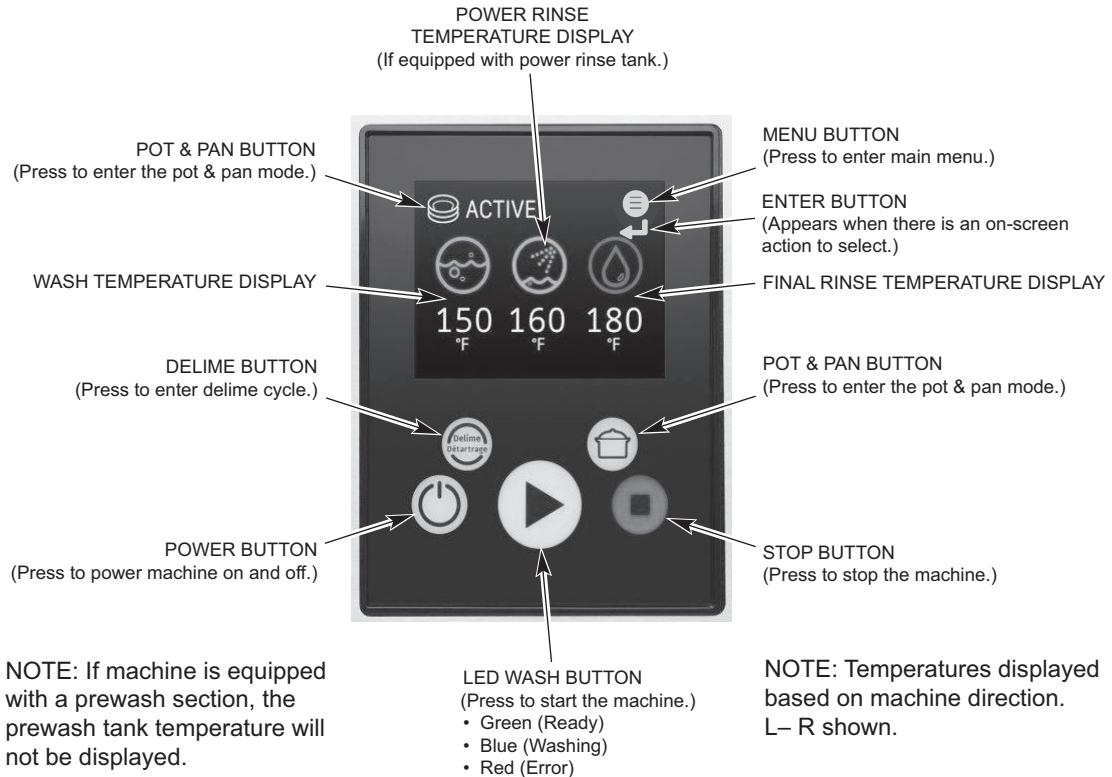

Fig. 24
The controls are mounted on top of the dishwasher. The HMI is mounted on the front of the control box (Fig. 24).
Close all doors. When the doors are closed, this will automatically close the drain. To begin filling after the machine is ready, press the POWER button (Fig. 24).
- Press the POWER button (Fig. 24). Dishwasher will fill automatically (refer to Filling the Dishwasher, page 22). After the tank has filled, the burner will ignite if heat is required. The ignition system includes a 15-second pre-purge period before ignition occurs.
After the machine has filled, start the pumps by pressing the WASH button on the HMI (Fig. 24) or by inserting a rack into the machine.
Tank temperatures are shown on the display (Fig. 24) when the machine is in operation. The final rinse temperature displays --- until a rack is in the rinse zone; then, the final rinse water temperature displays. After the ware exits the rinse zone, the final rinse temperature display returns to --- .
The pot and pan feature, standard on all CL models, allows the operator to wash heavily soiled pots and pans by indexing the racks thru two pre-set wash zones for a specified amount of time. Press the POT & PAN button located on the HMI (Fig. 24) to enter the pot and pan mode. Insert a rack into the machine. Each rack will index twice thru the wash zone by the pre-set time. The machine will return to normal operation by pressing the POT & PAN button or the STOP button, or if the Auto Timer times out.
1. Press the POWER button on the keypad to turn the machine off (Fig. 24).